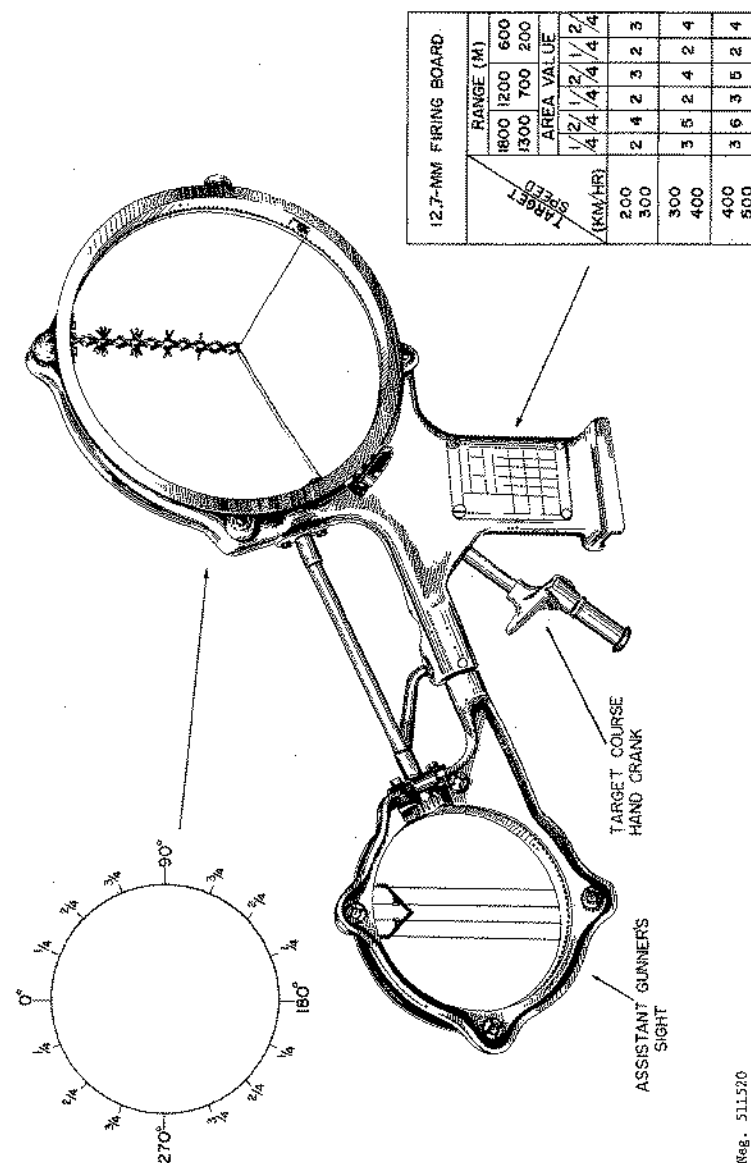

Figure 221. M1943 antiaircraft sight.
e. To convert the mount for antiaircraft fire, dismount the gun (reverse instruction in b above), loosen the shield clamps, and remove the shield. Loosen the axle bracket clamp and remove the wheels and axle. Loosen the clamp halfway along the legs, and lift the mount so that the legs are perpendicular to the ground. Swing the middle leg to the rear and open the outer legs. Lock the middle leg so that the upper mount will rotate on a horizontal plane, and reinstall the gun. A shoulder brace can be installed on the dovetail above the fine elevating knob, and the antiaircraft sight (fig 221) can be slid into the dovetail cut in the receiver.